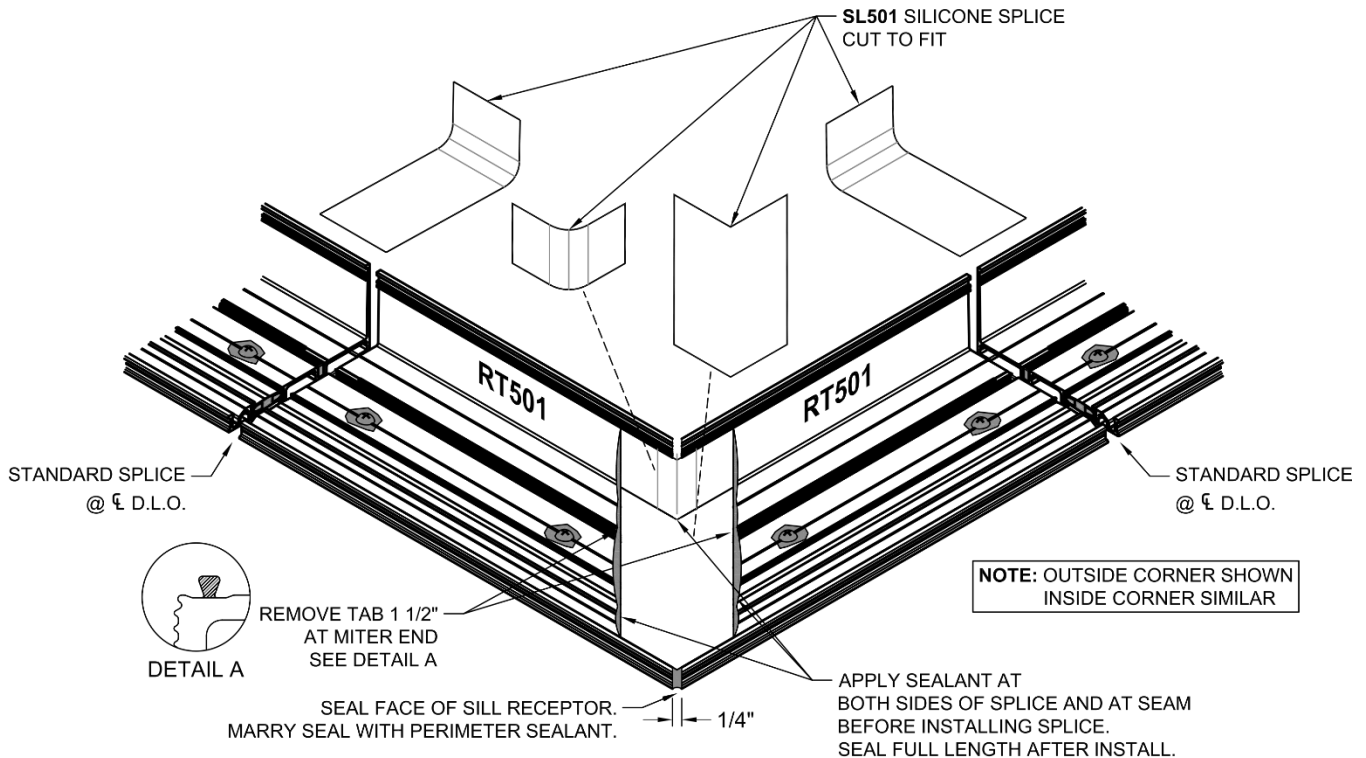

Figure 64: Sill Receptor Splice Installation at Corners (Outside Corner shown, Inside Corner similar)
- 17.10 For the mitered splice, remove 1-1/2" of the tab at miter end of each Sill Receptor piece. Reference Detail A in Figure 64.
- 17.13 Cut (2) **SL501** Splice sheets for the corner, following the visual guide in Figure 64: